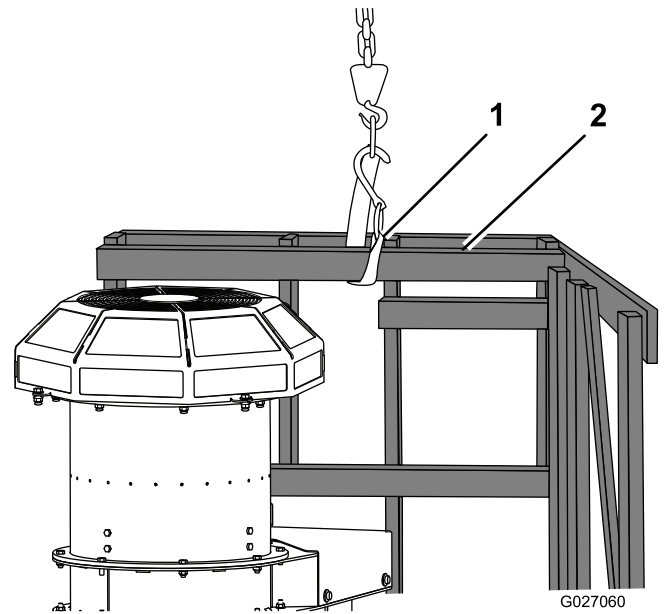

Figure 5
6. Secure a strap to the top end assembly and lift the pallet until the crate and blower is standing up vertically (Figure 5).